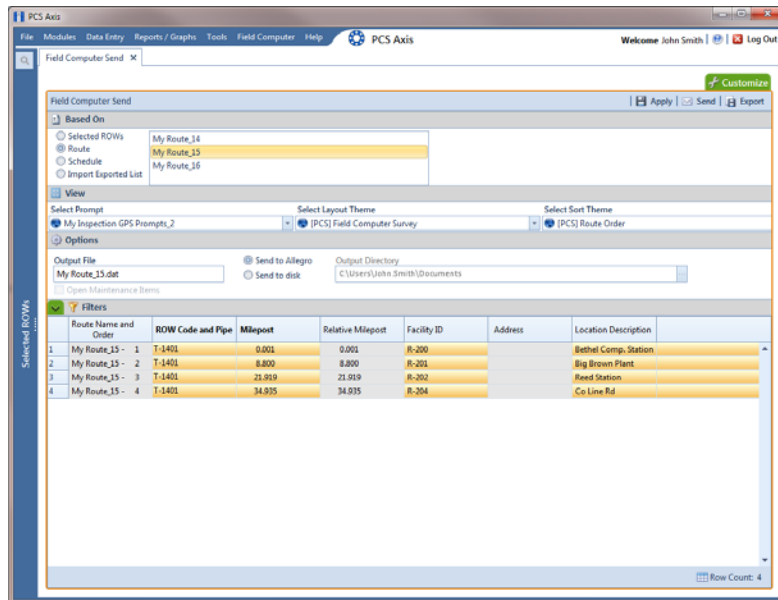

Figure 8-35. Field Computer Send
- 18 Click the **Route** option and select a route in the selection box. Then click  **Apply** to update the grid (Figure 8-35).
- a Click the  **Filters** tab to open the *Filters* panel (Figure 8-35, page 384).